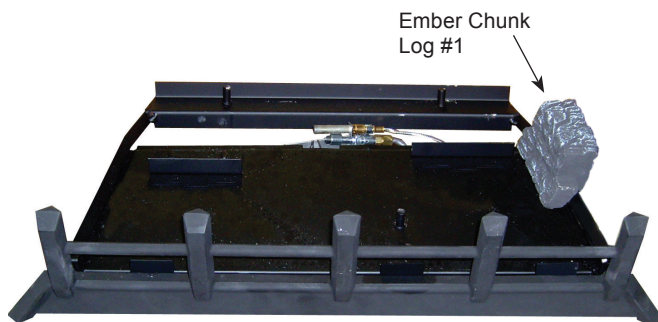

Figure 27. Place Ember Chunk Log #1
1. Place the #1 log (the “chunk”) on the grate bar right side of the burner adjacent to the controls. Figure 27.